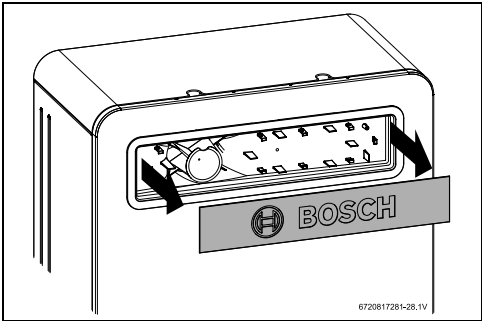

Fig. 48 Remove protection
- ▶ Remove the protection from the front cover, see fig. 48.